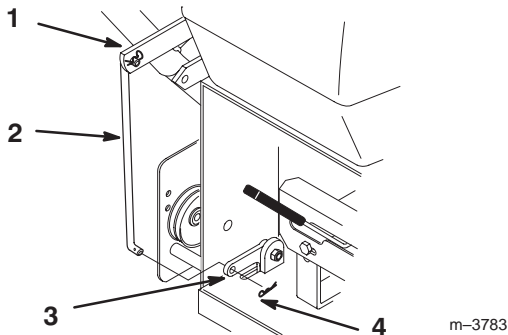

Figure 8
2. Remove hairpin cotter from bottom end of blade control rod (PTO) (Fig. 8).
3. Slide blade control (PTO) rod through hole in bellcrank and secure with hairpin cotter (Fig. 8).
3. Replace the spring washer, dish down, and locknut (Fig. 8).